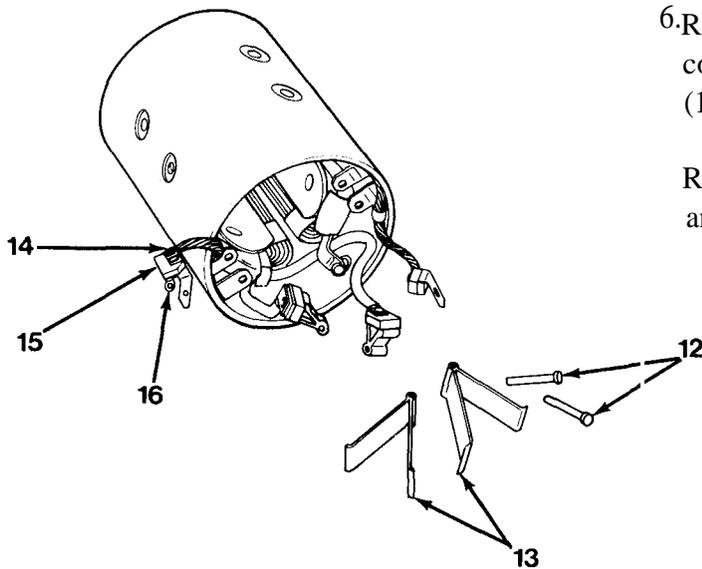

Figure 10-5
5. Remove two pins (12), brush springs (13), four brush screws (14), brushes (15) and brush holders (16, Figure 10-5).